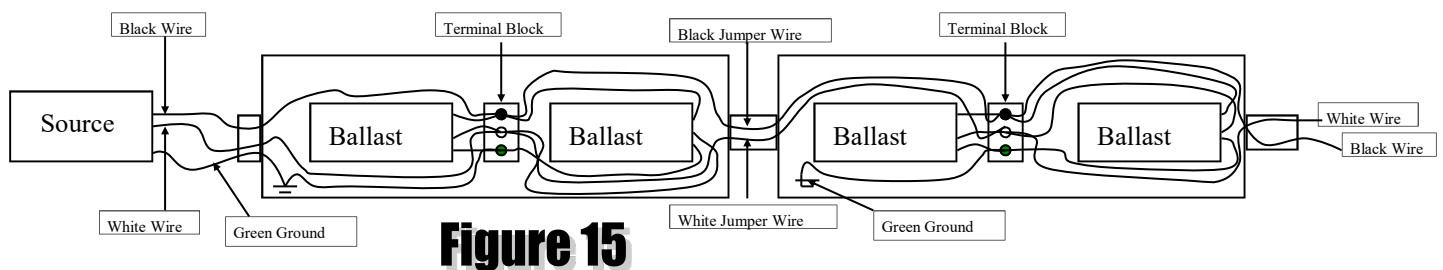

**Figure 14**
**Wiring for 5036SL-5036SL, 5036SL-5018SL, 5036SL-5009SL, 5018SL-5009SL, or 5018DL-5009DL units together see Figure 14 below**